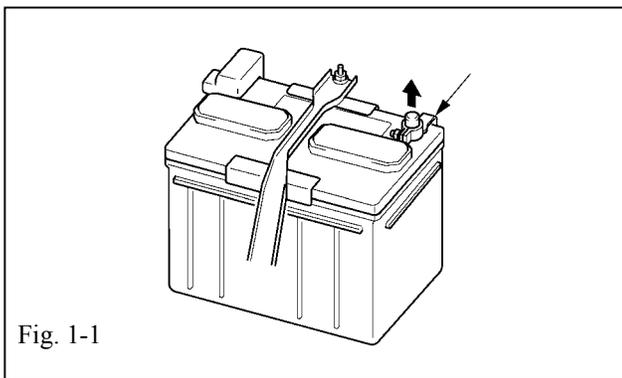

Fig. 1-1
- (b) Remove the negative battery cable (Fig. 1-1).
-  (1) Protect the fender before starting.
-  (2) Do not touch the positive terminal with any tool when removing cable.